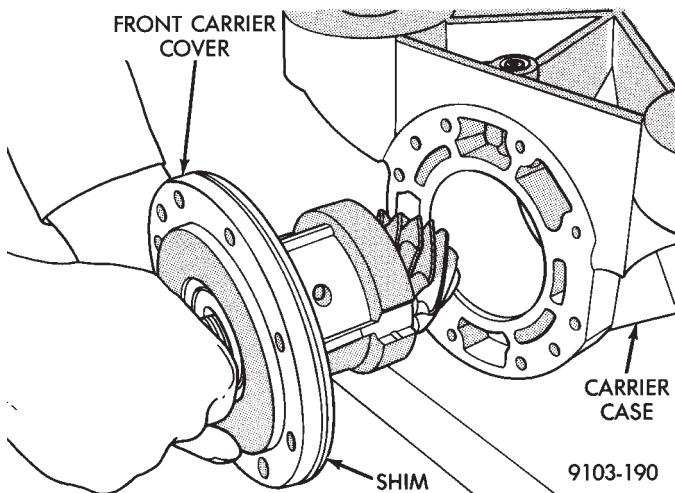

Fig. 7 Front Carrier Cover
(8) Remove front carrier cover from carrier case (Fig. 7).